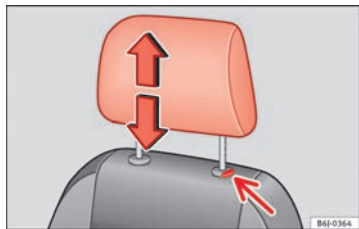

Fig. 75 Adjusting and removing the head restraints.
- Press the button ⇒ Fig. 75 (arrow).